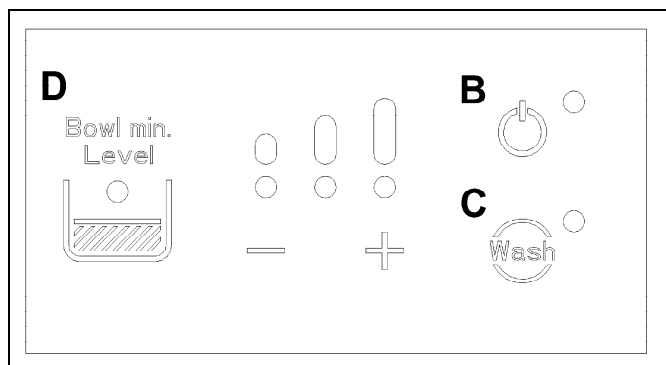

Fig. 12
- When the product level LED D and the power LED B (fig. 12) are lit with a buzzer sound activated, it means that the product level in the top tank is low and should be refilled; in these conditions the appliance is blocked and only the dispensing system will be activated if necessary until the product level has been restored.